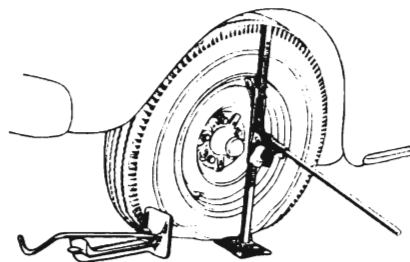

Fig. 10-1
- 2. Place jack under rim flange with inner edge of jack base against tire. Jack up wheel, using longest side of stand base for correct height of tire to ground. See Fig. 10-1 for correct position.